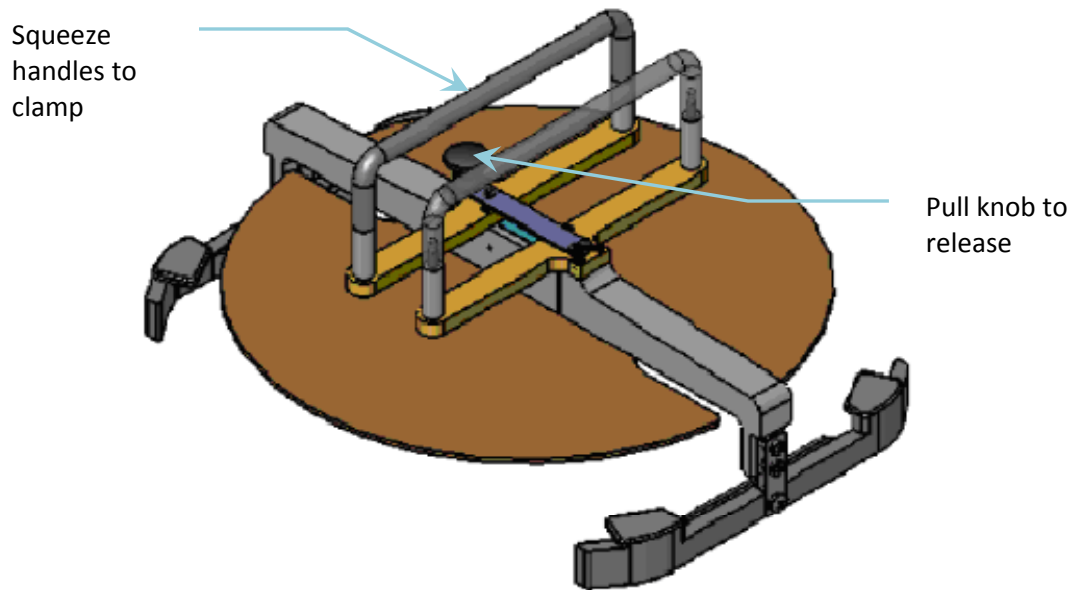

Figure 9, Bond Chuck Removal Tool
7.4.2 Use the chuck removal tool to move chuck onto cooling station. See *Figure 9, Bond Chuck Removal Tool*.